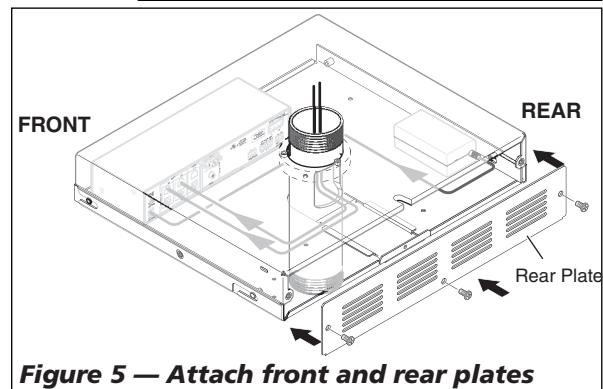

Figure 5 — Attach front and rear plates
- Reattach the front and rear plates (Figure 5).